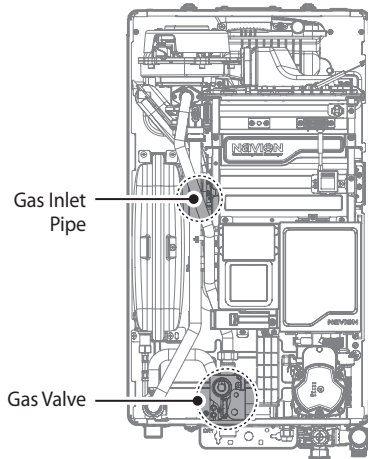

Figure 2. NCB500 Internal Components
- With the internal components exposed, locate the gas inlet pipe and the gas valve in the middle of the unit, as shown in Figure 2.